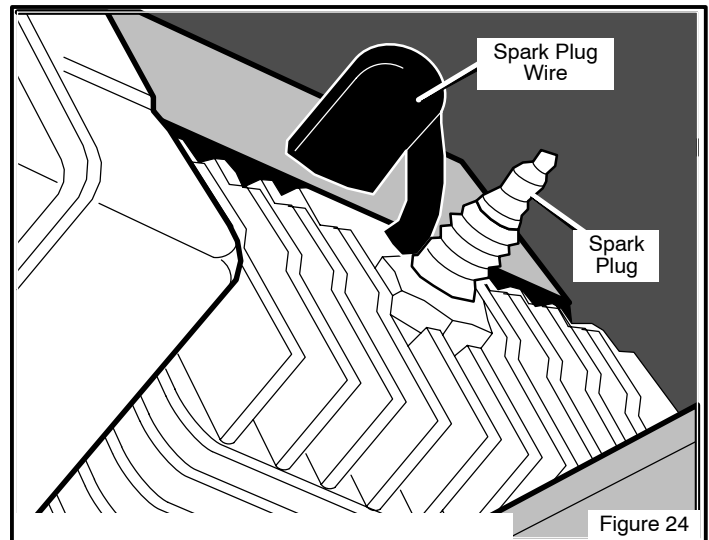

Figure 24
3. Disconnect the **spark plug wire** (see Figure 24).